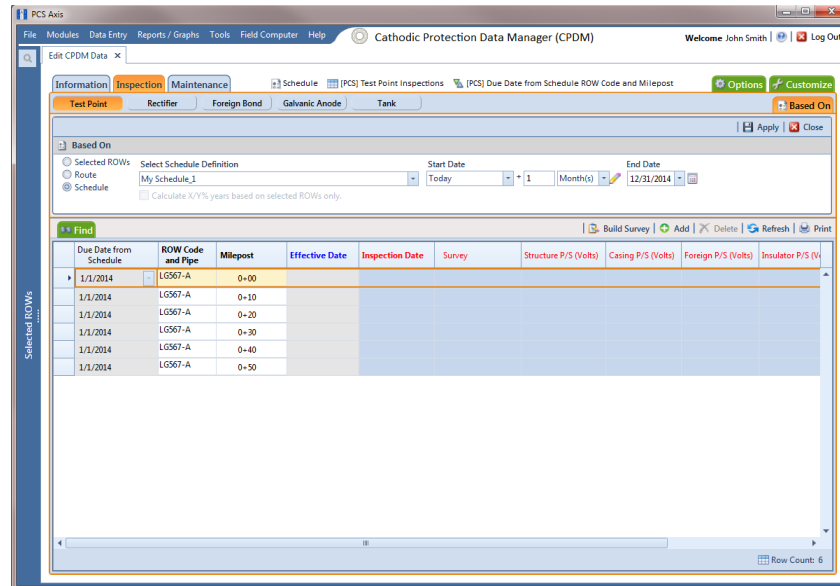

Figure 7-56. Based On Schedule
- a Click the **Start Date**  calculator to open dynamic start date fields (Figure 7-56).